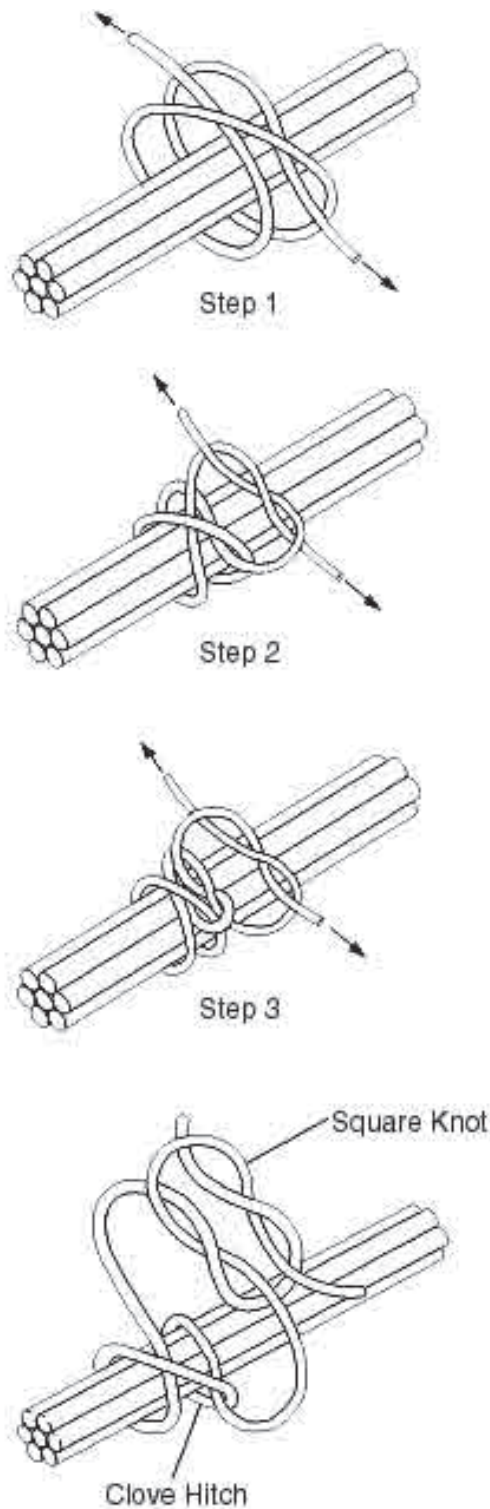

Figure 48. Bundle Ties
b. Wrap lacing tape around wire bundle and install a clove hitch knot (Figure 48).